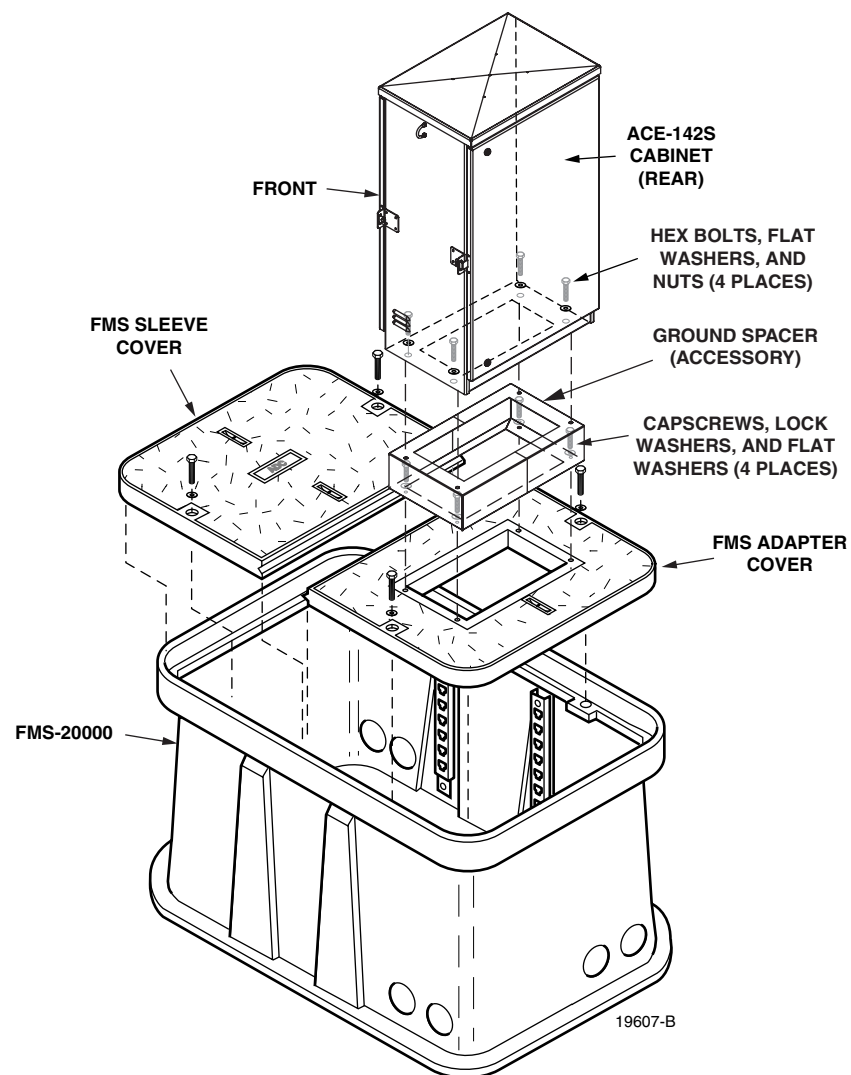

Figure 5. Mounting the ACE-142S Cabinet on the FMS-20000
1. Install the FMS adapter cover onto the FMS and secure using the two capscrews and flat washers provided with the cover as shown in Figure 5. Tighten each capscrews securely.